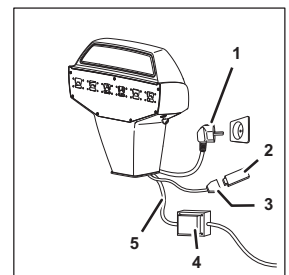

Fig. 12
- Only for units with a display:** Pull the electrical cable (Fig. 12/1) out of the earthed socket.
- Only for units with a display:** Pull the player (Fig. 12/2) from the USB connection (Fig. 12/3) of the unit.
- Disconnect the electrical cable (Fig. 12/5) (cable no. 220097434) on the transformer (Fig. 12/4) in the undercounter cooler.